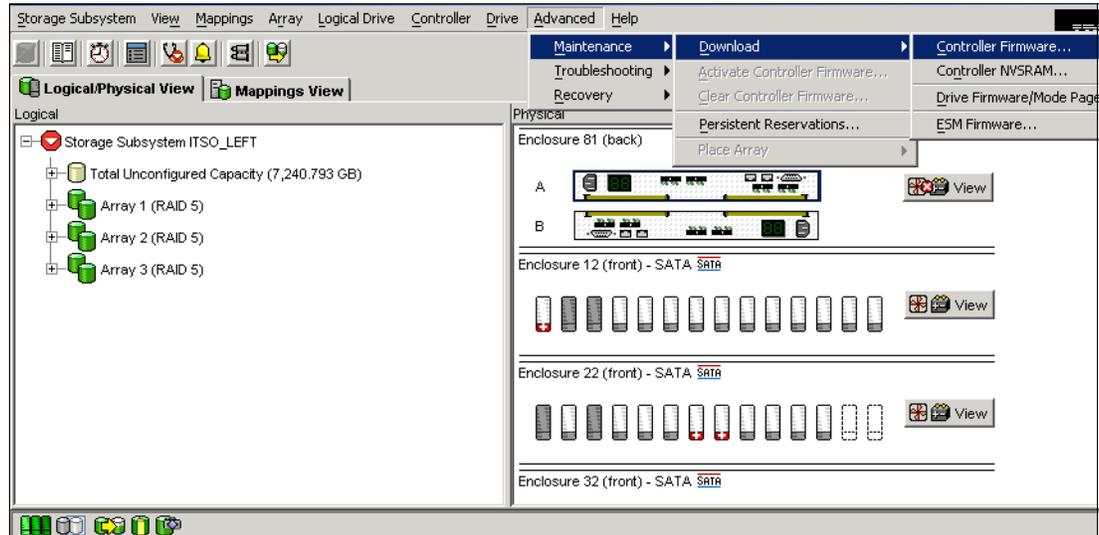

Figure 12-11 Subsystem Management window: Controller firmware update
1. Open the Subsystem Management window for the DS4000 storage server that you want to upgrade. To download the firmware select **Advanced** → **Maintenance** → **Download** → **Controller Firmware**, as shown in Figure 12-11.